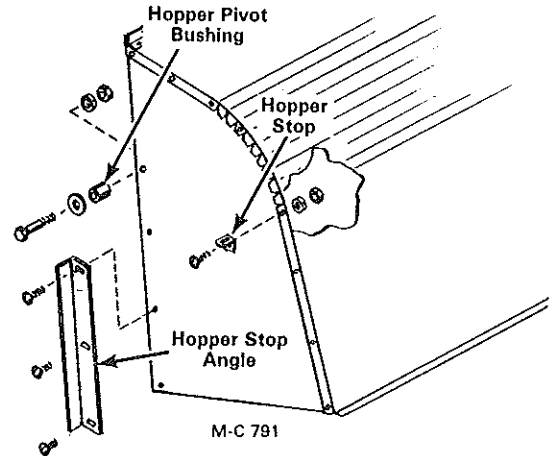

Figure 3
2. Bolt the hopper stops, Figure 3, in the fourth hole up from the bottom on each side of the chute front panel. Use  $\frac{1}{4}$ -20 x  $\frac{3}{4}$ " hex-head capscrews, lockwashers and hex-nuts.
3. Bolt each hopper pivot bushing, Figure 3, to the chute sides with  $\frac{1}{2}$ -13 x  $2\frac{1}{2}$ " hex-head capscrews, flatwasher (next to bolt head), lockwasher and hex-nut.
4. Install the hopper stop angles, Figure 3, to the chute sides and body side plates with  $\frac{5}{16}$ -18 x  $\frac{3}{4}$ " truss head screws, lockwashers and hex-nuts. Leave these screws loose until the hopper is lifted onto the chute assembly.